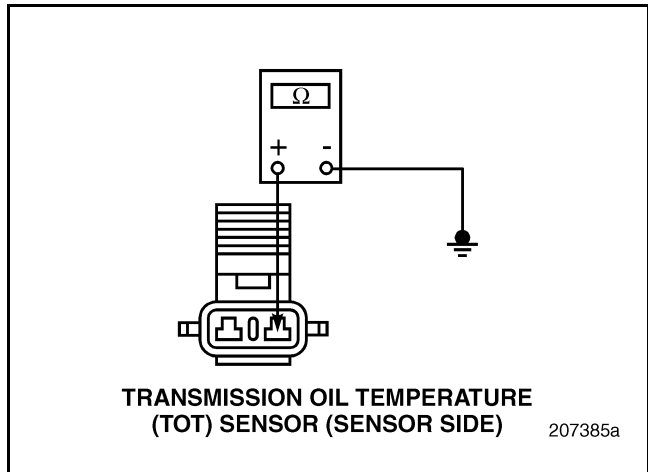

Figure 224
3. Check for continuity between either pin of the TOT Sensor and a good ground (see Figure 224).